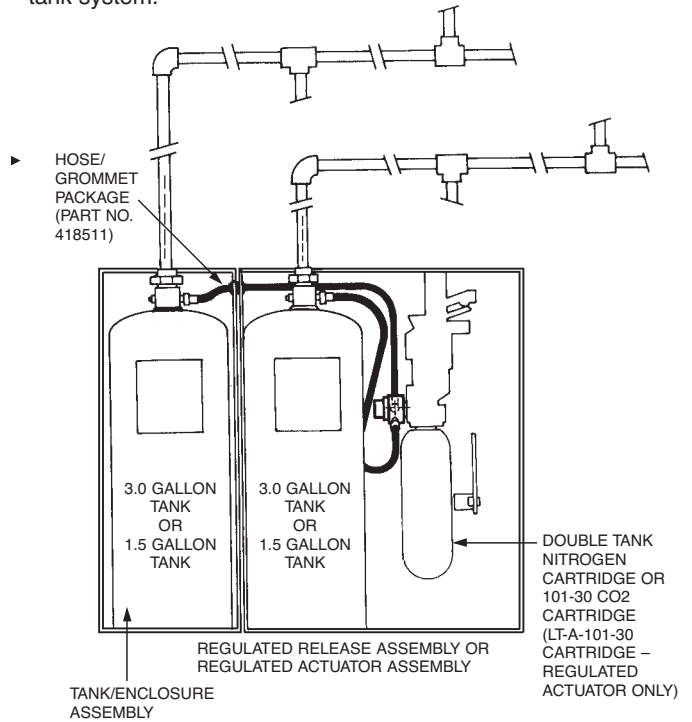

FIGURE 116
Independent pipe runs can also be used with the regulated release assembly and the tank/enclosure assembly or tank mounting brackets. See Figure 116. When manifolding is not used, each of the two (2) 3 gallon tanks utilize the piping limitations of a single tank system.